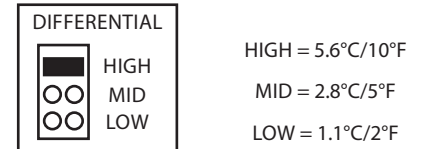

Figure 8
- Pull at least six inches of control wire into the enclosure, then complete the wiring connection according to the wire diagram for the applicable power supply as shown in Figure 8.
- Connect the DC positive or the AC voltage hot side to the PWR terminal. The supply common is connected to the COM terminal. See Figure 8.